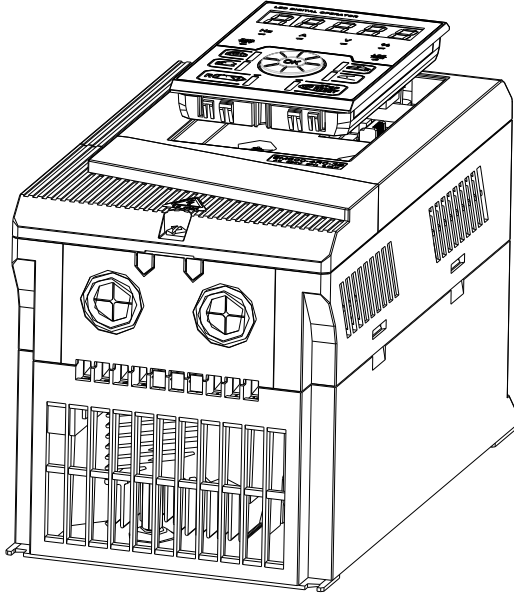

Figure 2-4 Keypad Installation
- Assemble keypad: Make RJ-45 terminal aligned with the modular plug at the keypad bottom horizontally, and press the keypad flatly until it clicks into the right place. See Figure 2-4.